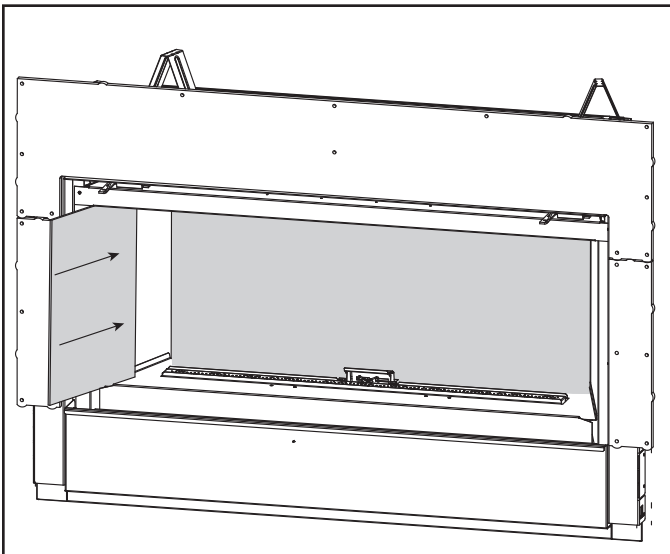

Figure 4. Placement of Side Glass Panel
5. **Side Panels:** Position glass panel between bottom glass tabs and side wall of firebox. See Figure 4.